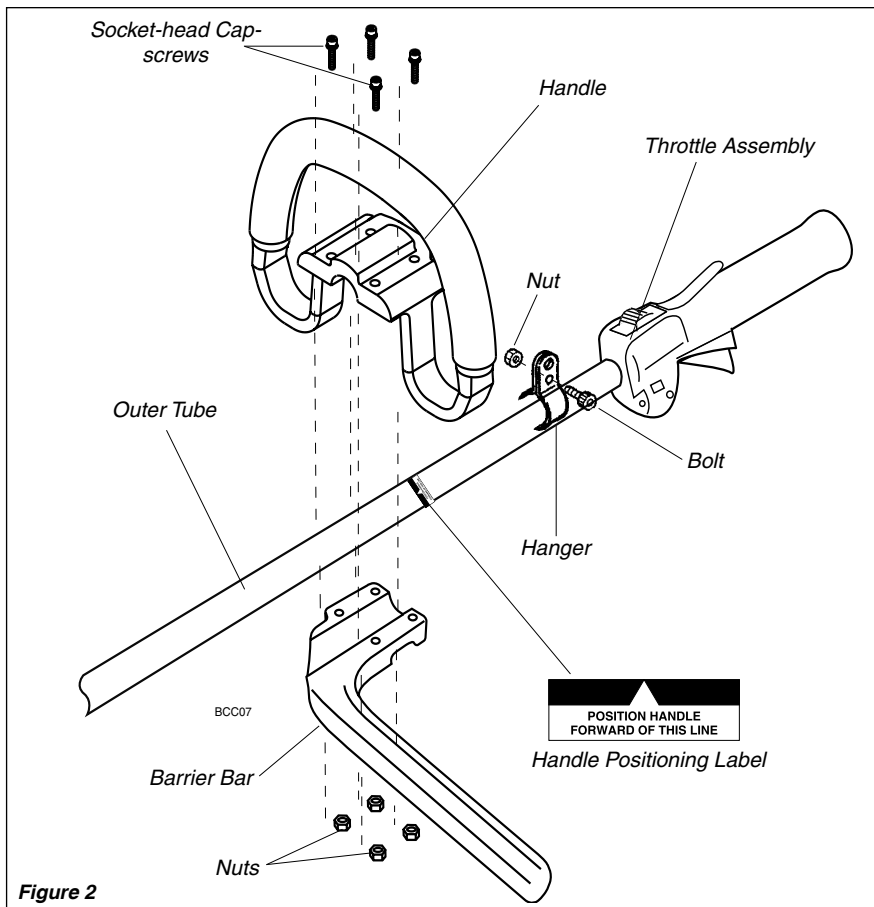

Figure 2
3. Position the hanger on the outer tube between the handle and throttle assembly and secure the hanger with the nut and bolt as shown in Figure 2.
6. Position the handle on the outer tube forward of Handle Positioning Label as shown in Figure 2.